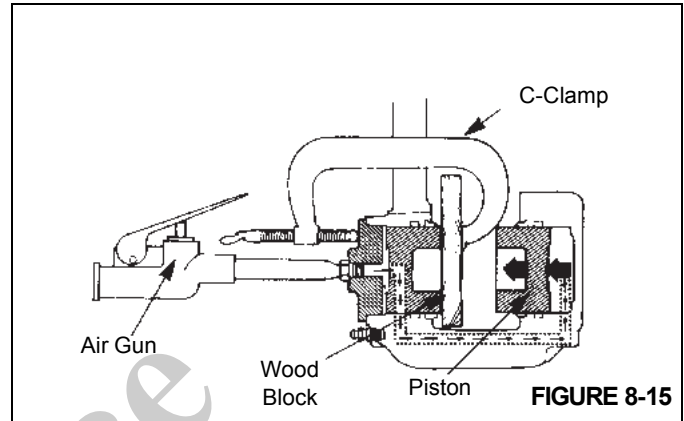

FIGURE 8-15
- b. Apply compressed air to the inlet fitting to force the pistons out of the other housing. If one piston comes out before the other piston, put a piece of wood in front of the piston that comes out first. Apply compressed air to force the other piston out of the housing (Figure 8-15).